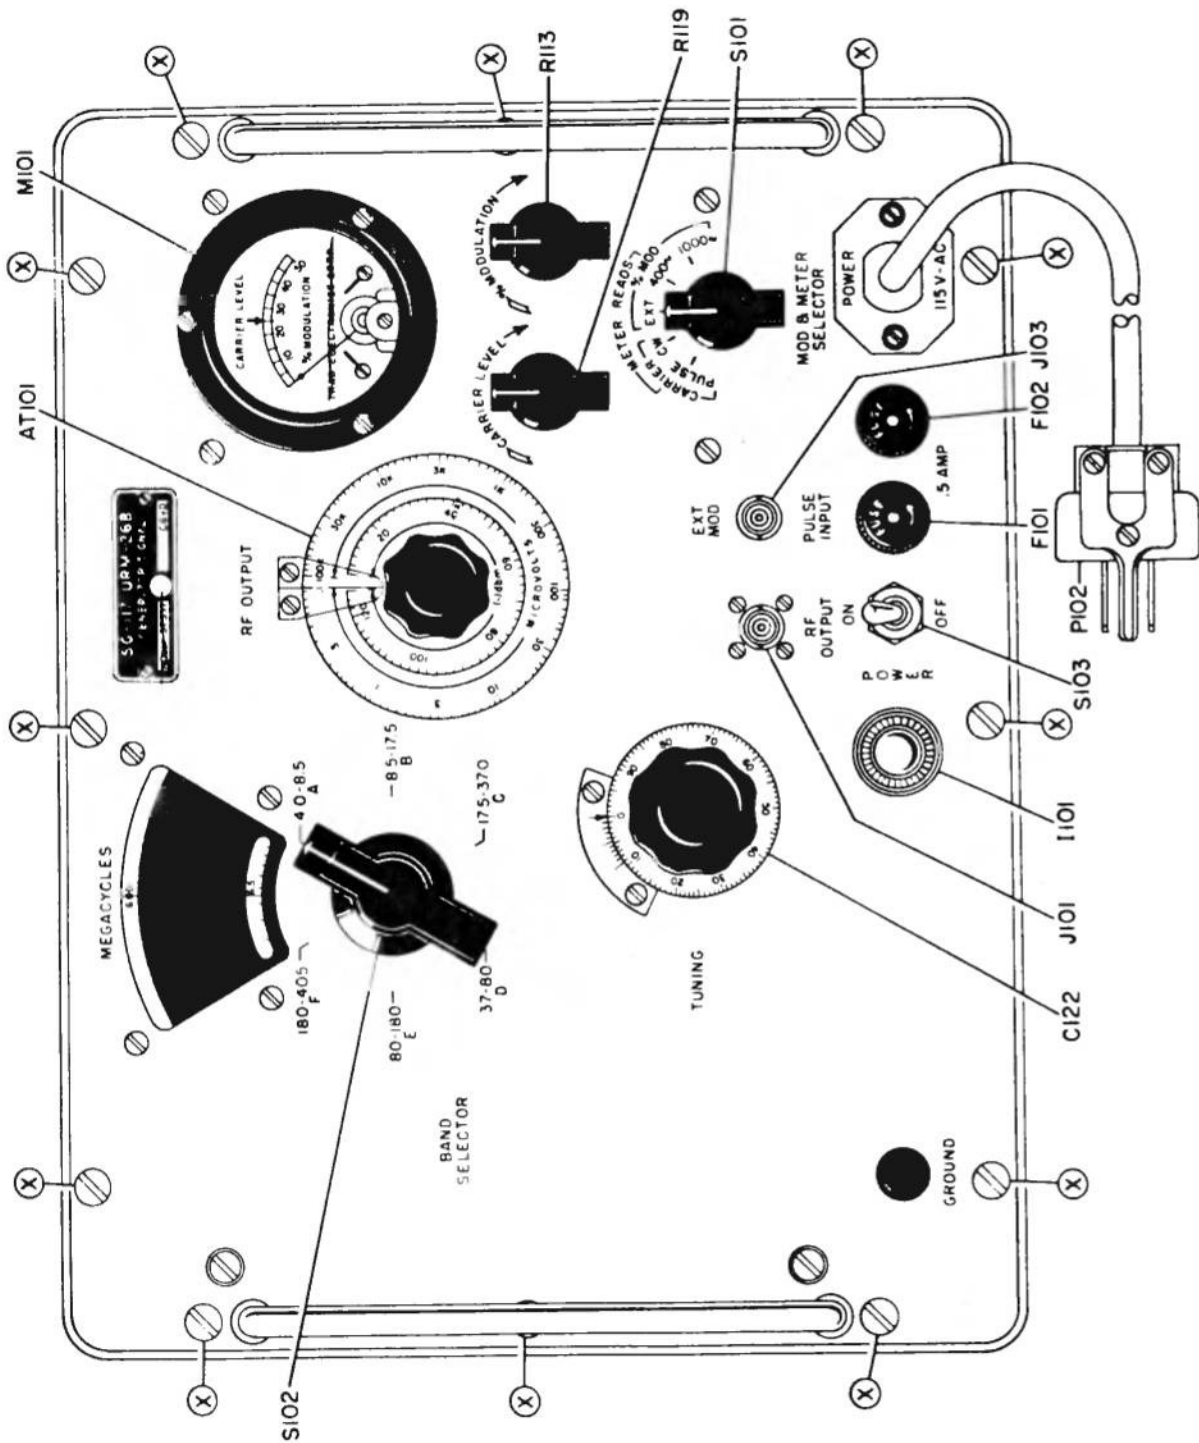

Figure 6-1. Front Panel View for Removal of RF Signal Generator SG-117/URM-26B from Case.
(See figure 6-1.)
(1) Loosen the twelve captive screws (marked "X"; see figure 6-1) located around the outer edge of the front panel.
(2) Gently pull the signal generator chassis from the case, using the lifting handles provided on the front panel. The signal generator can be completely removed because the cable connecting it with the power supply is purposely long enough to enable the power supply to remain in the case while the signal generator is out.